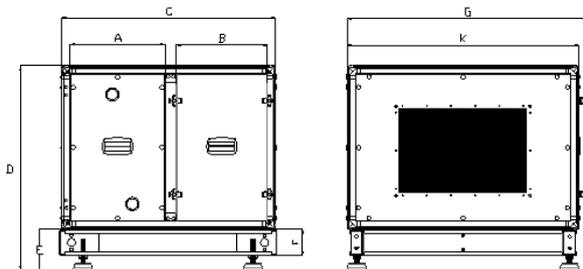

Fig. 94
- DX cooling coil module dimensions can be seen below. (Fig. 94)